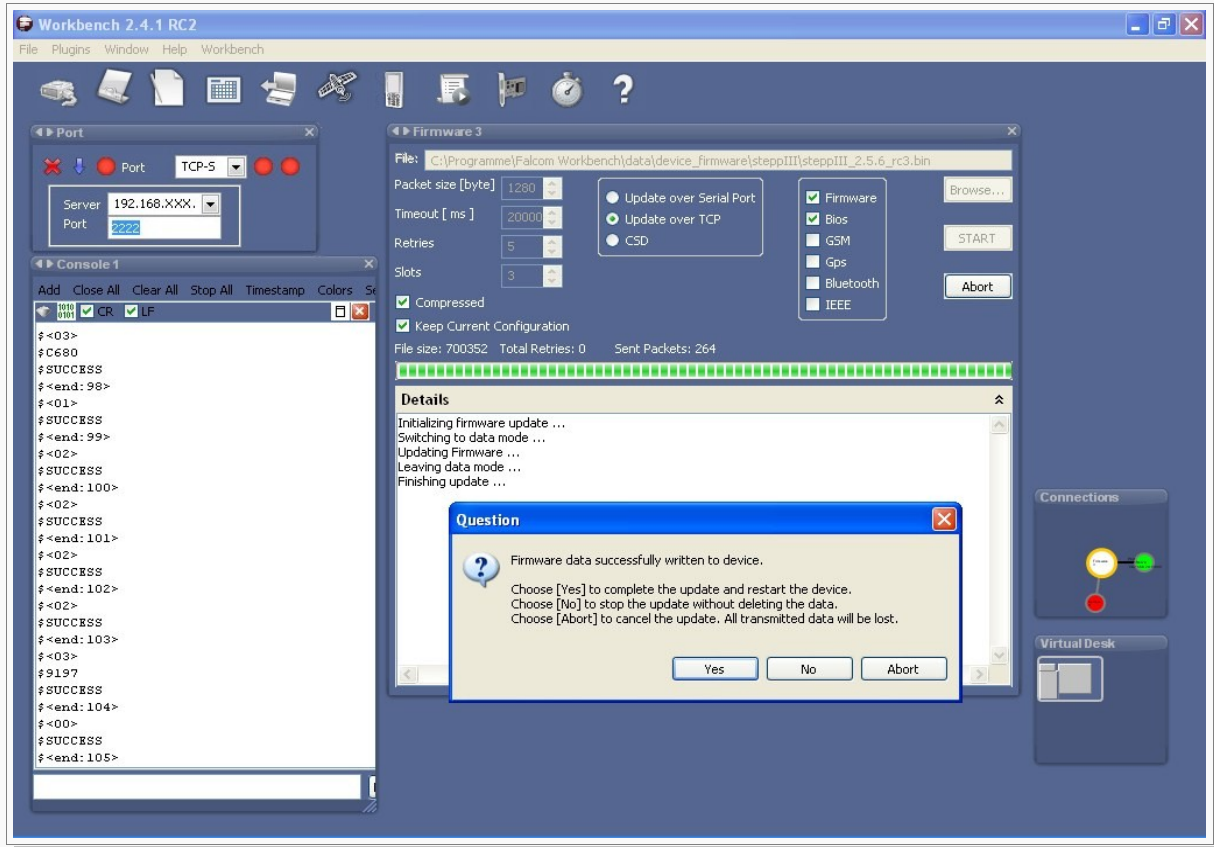

Figure 6: Update process completed
10. When the upgrade of the firmware has been done, a message box will appear. Press "Yes" to complete the update and restart your upgraded device (see Fig. 6).